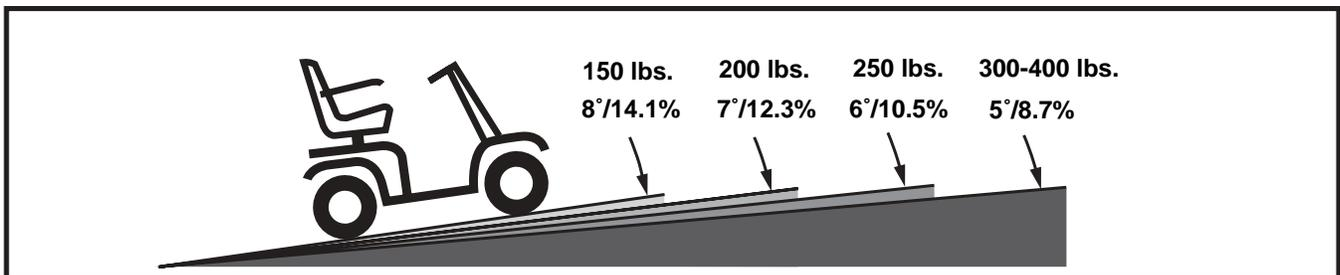

Figure 1. Maximum Recommended Incline Angles
**WARNING!** Even though your PMV is capable of climbing slopes greater than those illustrated in figure 1, do not, under any circumstances, exceed the incline guidelines or any other specifications presented in this manual. Doing so could cause instability in your PMV, resulting in personal injury and/or damage to your PMV.
Handicap public access ramps are not subject to government regulation in all countries, and therefore do not necessarily share the same standard degree of slope. Other inclines may be natural or, if man-made, not designed specifically for PMVs. Figure 1 illustrates your PMV's stability and its ability to climb grades under various weight loads and under controlled testing conditions.
**WARNING!** Any attempt to climb or descend a slope steeper than what is shown in figure 1 may put your PMV in an unstable position and cause it to tip, resulting in personal injury.